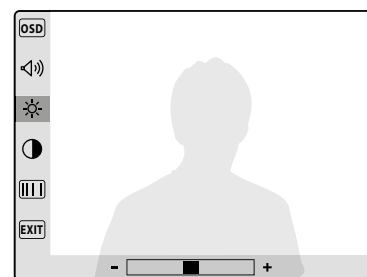

Fig. 19
- The picture brightness (8 levels, **Fig. 19**);